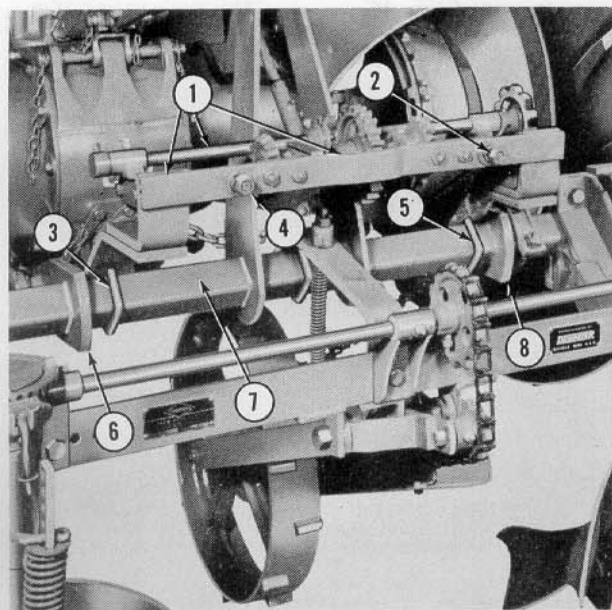
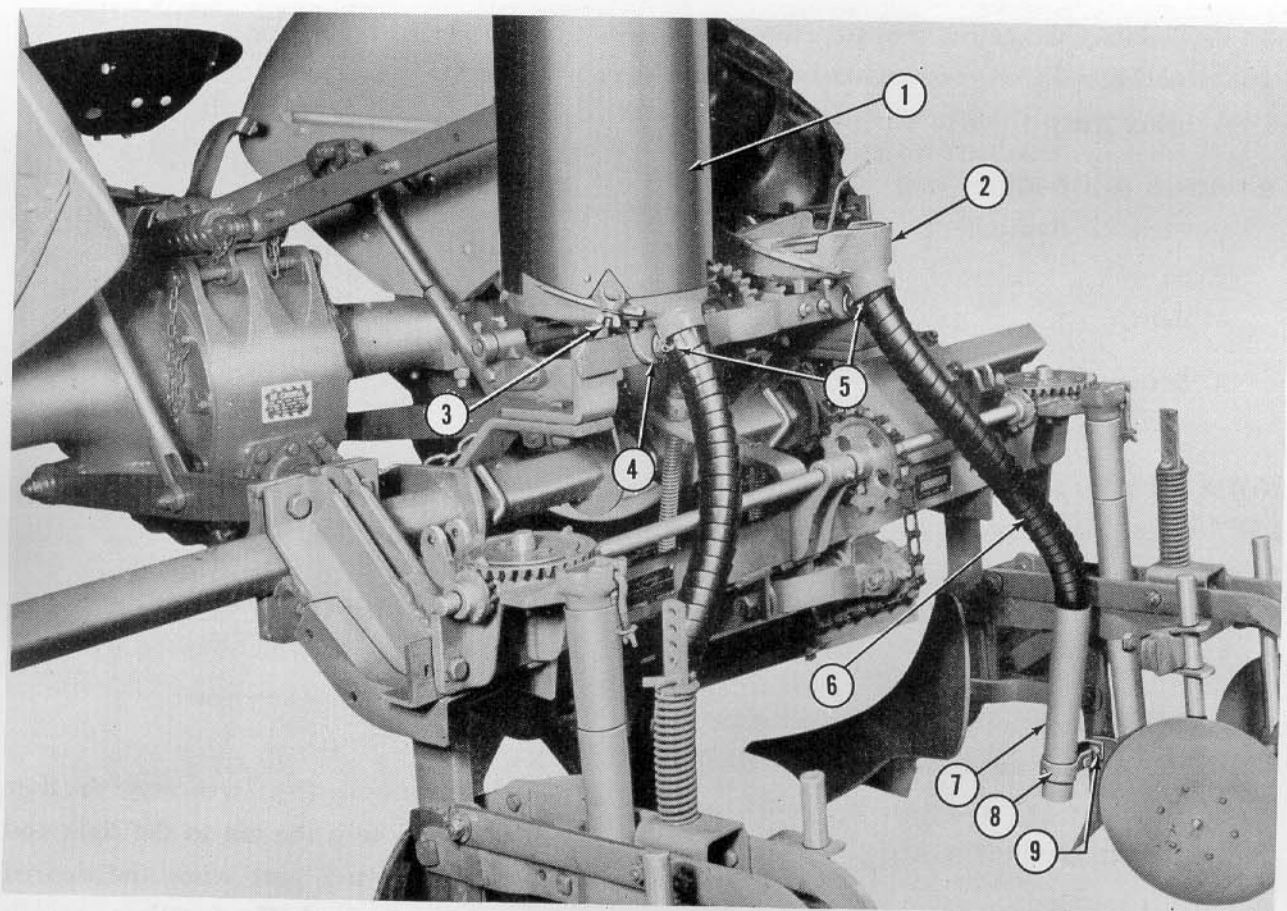

Figure 16
Figure 19
- Attach the fertilizer frame (1) to the tool bar (7) between the lower link struts (6) and (8) with the two U-bolts (3) and (5) as shown in Figure 16.
9. Attach two fertilizer cans (1), Figure 19, to each can bottom (2) and secure with three bolts, washers and wing nuts (3) as shown.
- a. Loosen the nuts on the two bolts (4) and (2), Figure 16.
- b. Place the fertilizer cans on the frame so the slotted hole (4), Figure 19, fits on the bolts (4) and (2), Figure 16, and tighten the nuts securely.
10. Attach one flexible tube (6) to each fertilizer outlet on the can bottoms (2) with the long cotter pins (5) as shown in Figure 19.
- a. Attach one fertilizer delivery tube clamp (8), Figure 19, to the inside of each planter subsoiler with the bolt (9) provided on the seed tube clamp.
- b. Twist the free end of the flexible tubes (6), Figure 19, into the large end of the delivery tubes (7).
- c. Secure the delivery tubes (7) in the desired position with tube clamps (8), Figure 19.
11. To adjust the flow of fertilizer from the cans (1), Figure 19, loosen the wing nuts